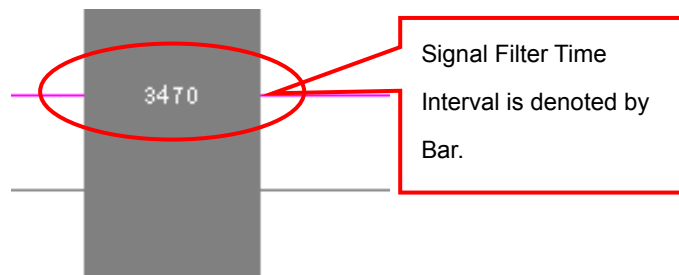

Fig4-148 - Signal Filter Time Interval
1. Click **Show Bar** to know the length of the tested and deleted signal as shown in Fig4-148 below.